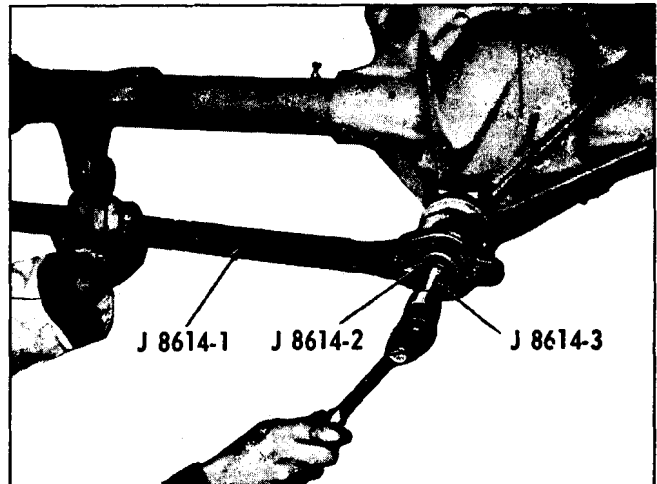

Fig. 4A-8 Removing Companion Flange
5. Remove companion flange, using puller J 8614-2 and 3 (Fig. 4A-8).